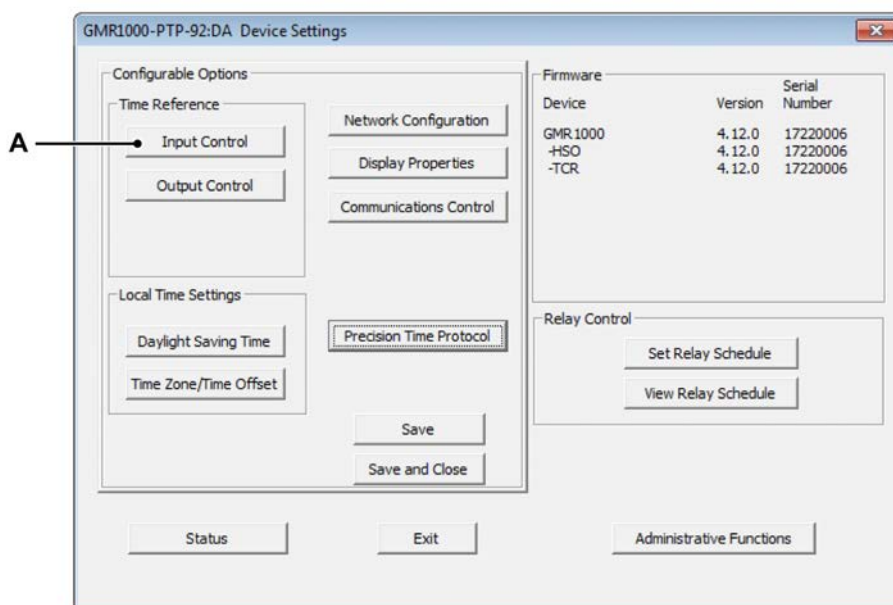

Figure C.65: GMR1000 PTP Device settings
- 2 Expand the tree in the **Device Configuration Utility** until the specific device is found, which is part of the GMR1000 Master reference -> GMR1000 PTP Server family. Once found, click on the device, this will open the device settings window (see Figure C.65).